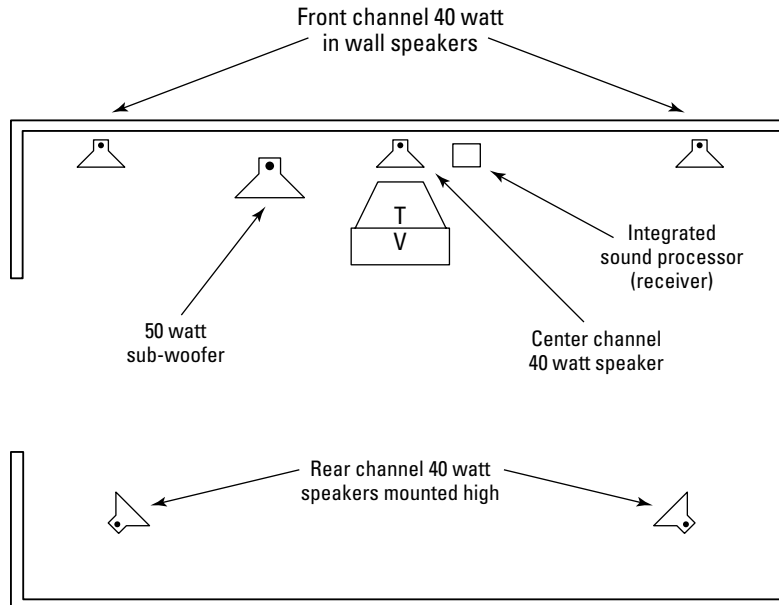
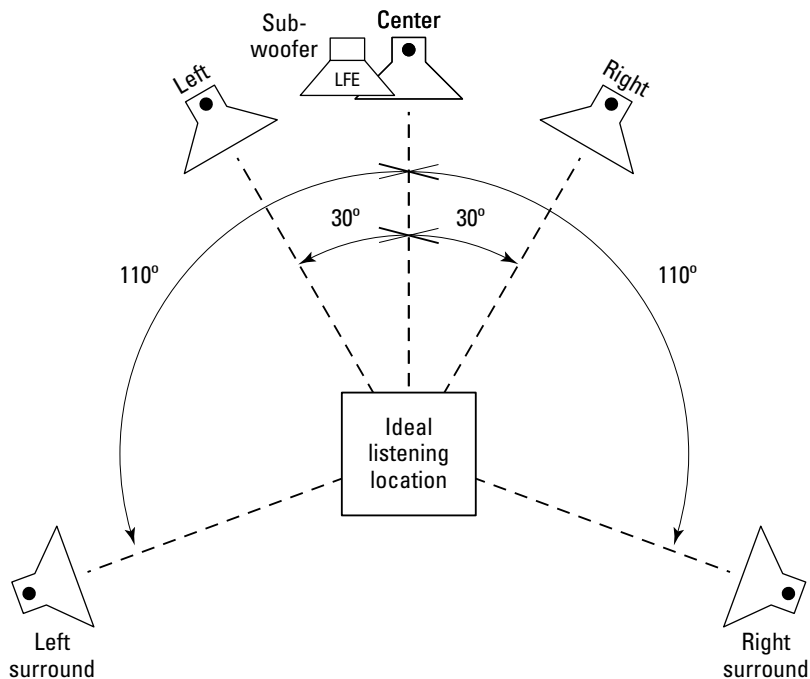

Figure 9-2:
Figure 9-3:
- ✓ **5.1 channel:** This layout includes right front, left front, center, right surround, left surround, and subwoofer speakers. Figures 9-2 and 9-3 in this chapter show a 5.1 channel arrangement. Figure 9-3 shows the proper angular arrangement.
Figure 9-2 shows a basic 5.1 channel surround sound speaker layout that you might find in many homes, placed about without full regard to the proper angular placement for the maximum quality sound reproduction. When choosing the precise location for each speaker, follow the *International Telecommunication Union (ITU)* standard shown in Figure 9-3. Most recording engineers set up their recording microphones this way, so if your speakers follow the same layout you should be hearing the sound exactly as it was originally recorded. The ITU standard specifies angles for each surround speaker relative to the listener. The listener is directly in front of the center speaker, with the left and right front speakers 30 degrees to either side, and the surround speakers 110 degrees to either side.
If you have trouble measuring or calculating angles, place an enlarged photocopy of Figure 9-3 in the center of your room and pull strings tight over the lines to each speaker location.